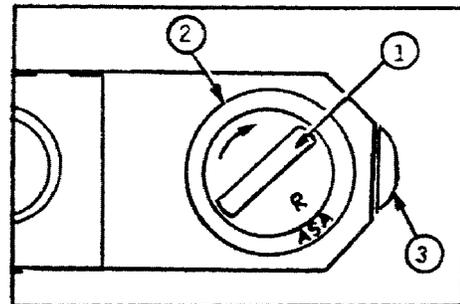

Figure 1-6. Crank for rewind, right side.
c. Crank for Rewind (fig 1-6) ① - crank unfolds for ease of rewinding film into cassette. Film Reminder Dial ② - may be used as a reminder of which kind of film is in the camera body. Camera Case Catch 3 - secures the removable camera back.